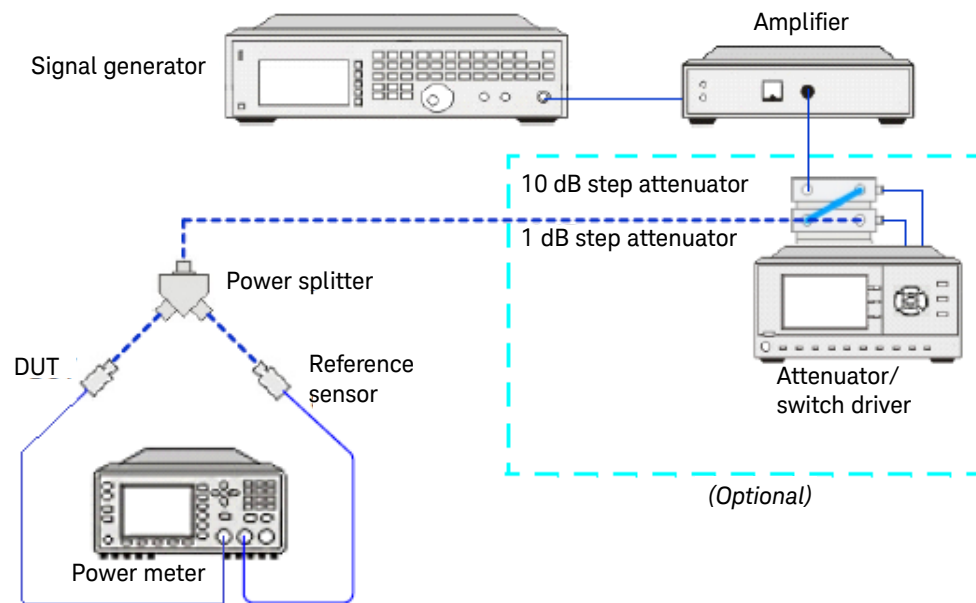

Figure 4-2 Power linearity performance verification equipment setup
- 3 Connect the power splitter to the RF output of the signal generator. The equipment setup is as shown in Figure 4-2.